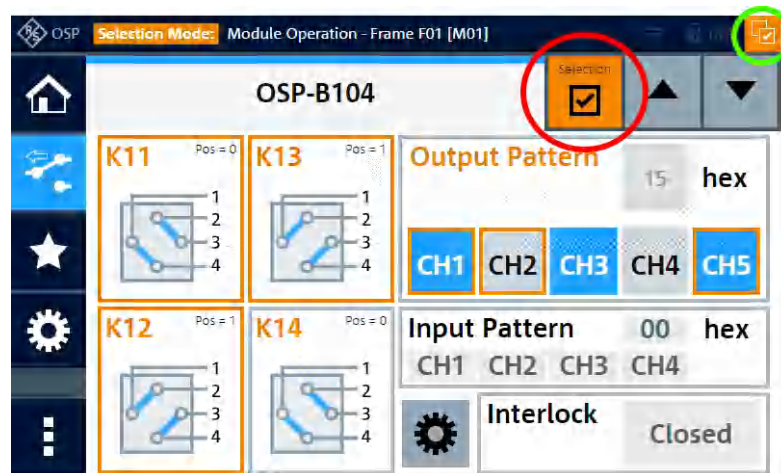

Figure 5-19: Relay and channel selection dialog
The "**Selection**" button switches the "Selection Mode" on or off. This button (marked by the red circle in Figure 5-19) is available only in a view that shows at least one module and its details.
If at least one relay or channel is selected, even if it is not part of the currently visible module dialog, the "Items Selected" indicator icon is highlighted in orange. This icon is marked by a green circle in the far right top corner of Figure 5-19. The state of the indicator icon (highlighted or not) is independent of the "Selection" button being active or deactivated.
- The Selection Mode is disabled (see Figure 5-19)
Otherwise, with a dialog as in Figure 5-19, for example, the context menu offers the "Module Information" button for detailed information for this individual module:
Only available, if at least one relay or channel is selected, as in Figure 5-19, for example.
- If this button was enabled when you clicked "Select All", it remains enabled, as in Figure 5-19